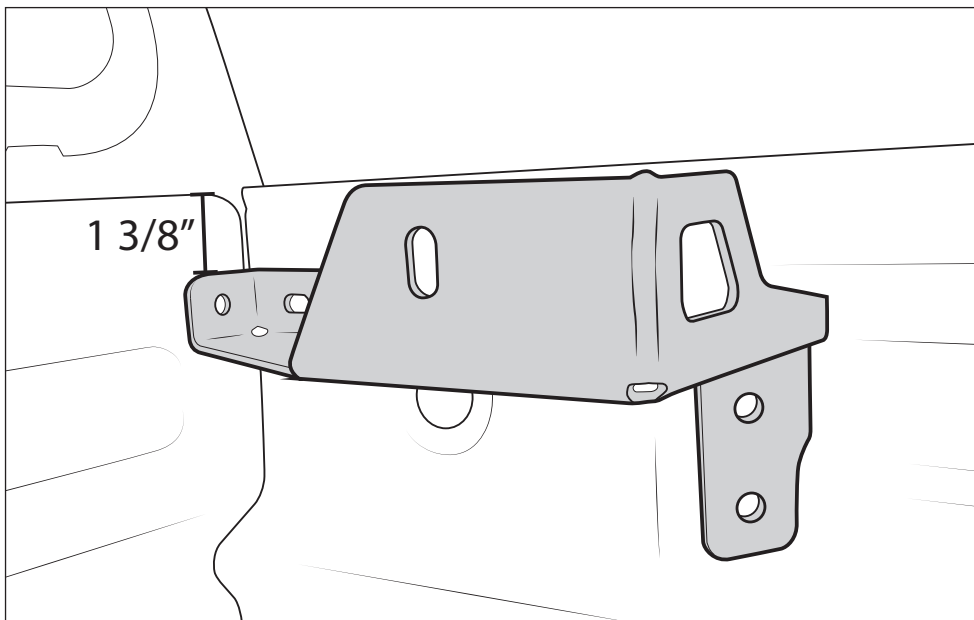

Figure 2
2. Position the Bed Rail Bracket into the corner of the bedside  $1\frac{3}{8}$ " from the top of the bed rail to the top edge of the bracket (fig. 2). Be sure that the Bed Rail Bracket does not exceed the height of the bulkhead rail and side rails. Mark the hole location on the bulkhead.